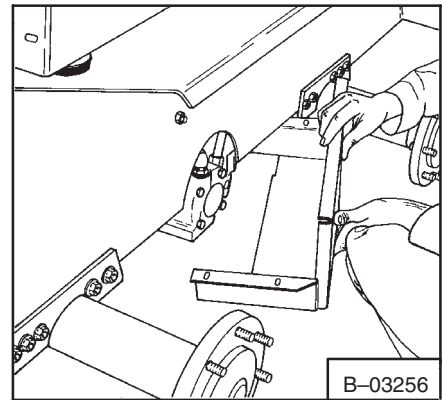

Fig. 3-34 Removing Motor Cover
2. Remove the motor cover (Fig. 3-34).